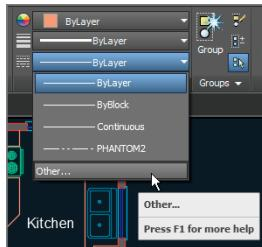

FIGURE 6.19 Accessing other linetypes
1. Open the Linetype drop-down menu in the Properties panel, and select Other at the bottom of the menu (see Figure 6.19).